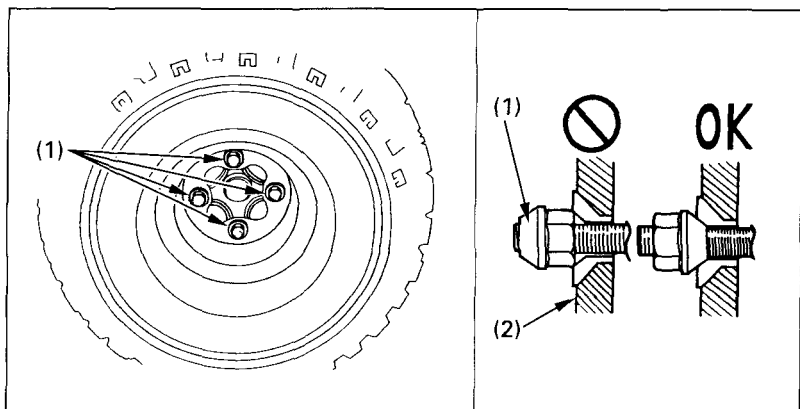

Fig. 4-27 (1) Wheel nuts
2. Loosen the wheel nuts (Fig. 4-27) with a 17 mm socket wrench.